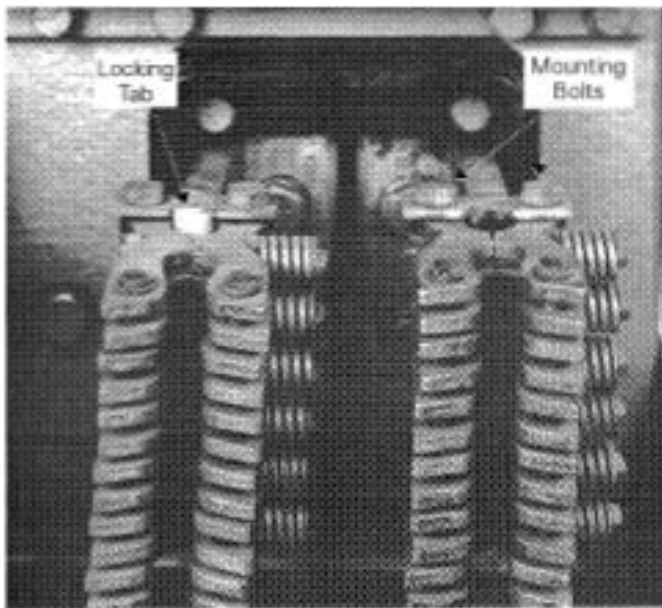

Figure 17. Primary disconnect assemblies.
1. To remove the primary disconnect assemblies from the line-side stabs, as shown in Figures 17 and 18, do the following: